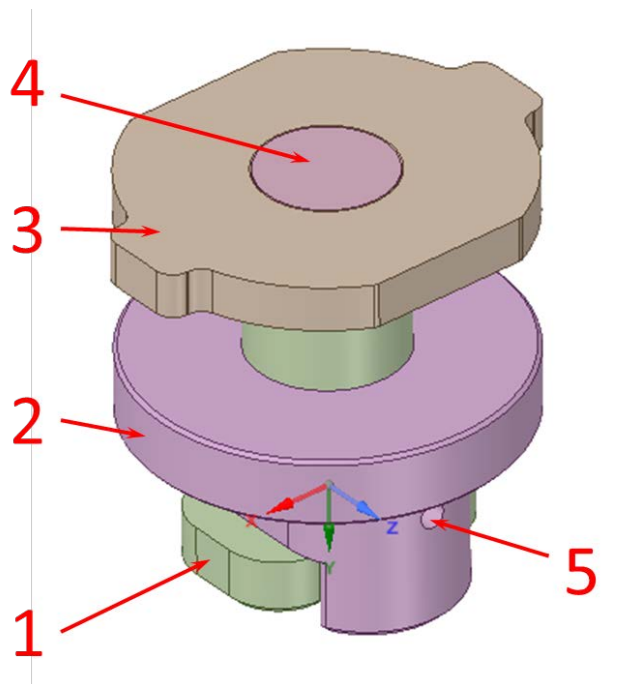

Figure 1. Main components Twist4lift (drawing in locked configuration).
- The Twist4lift consist of the following main components, see Figure 1: